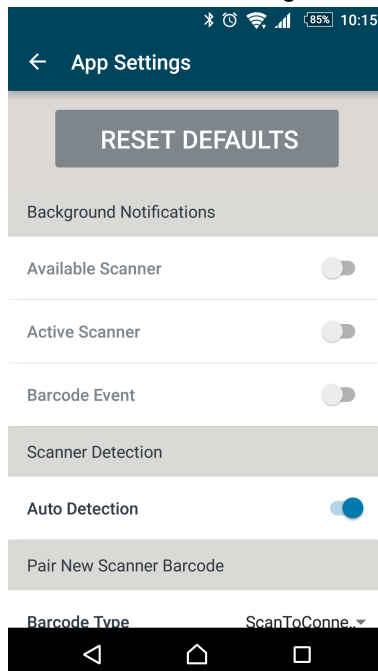

Figure 1-3 *App Settings*
5. The available settings are displayed in Figure 1-3. See Table 1-2 for settings descriptions.